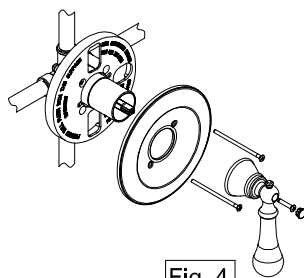

Fig .4
- Install the handle assembly (see Fig. 4).